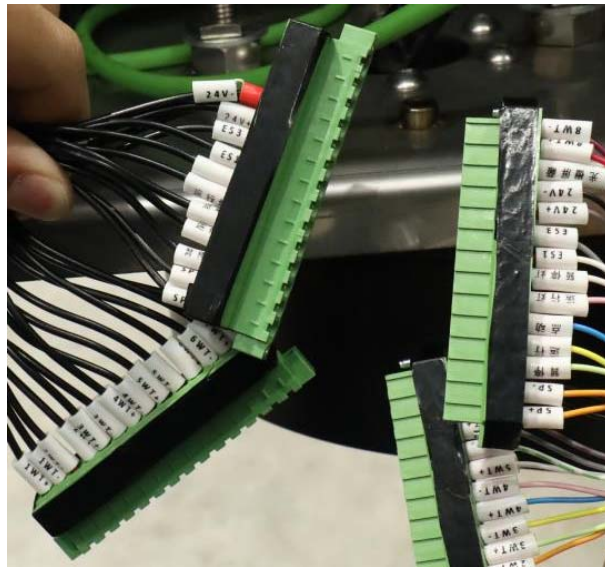
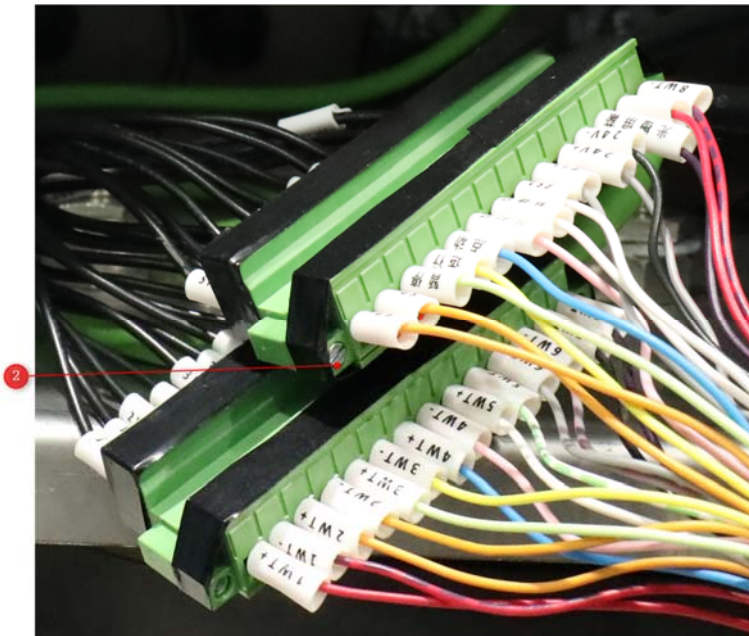

Figure 5-22 Terminals
Figure 5-23 Connecting terminals
The method of connecting power cable of suspension HMI console is shown in Figure 5-21, Figure 5-22, and Figure 5-23.
(1) Rear door of suspension HMI console
Step 1: Open rear door of suspension HMI console (1), the terminals shown in Figure 5-22;
(2) Screw
Step 2: Connect the green terminals according to wire number (Figure 5-23 is not the real wire number, please refer to the electrical schematic for details);
Step 3: Tighten screws (2);
Step 4: Close rear door of suspension HMI console (1).